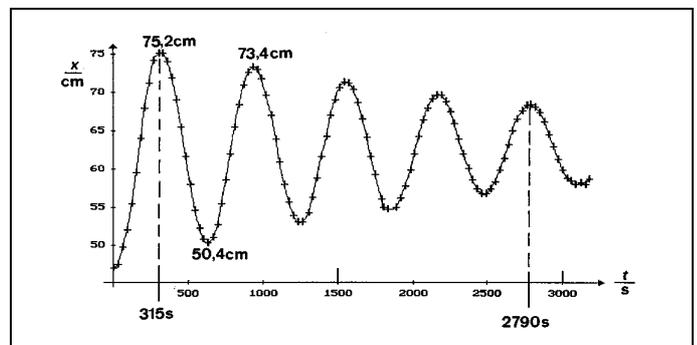

Fig. 7
Schwingungsdauer  $T$  (aus Fig. 7):
Oscillation period  $T$  (from Fig. 7):
- Assemble the torsion balance (with locked pendulum body) on a stand base which can be levelled (e.g. 300 01/06) in such a way that the back side is at the front; to ensure safe handling, support the protective tube with replacement torsion band (683 21) in a clamp (Fig. 7).